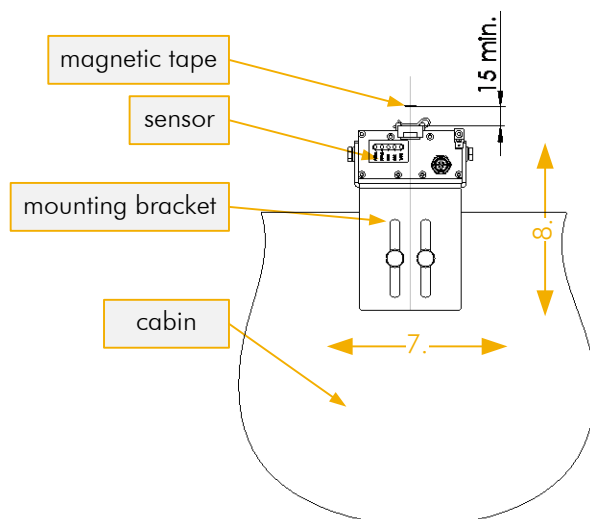

Fig. 9: Distance and orientation of the magnetic tape in relation to the sensor.
7. Adjust the position of the sensor using the tape as a reference. First align the sensor and magnetic tape on their centreline. (Step 7 in Fig. 9).